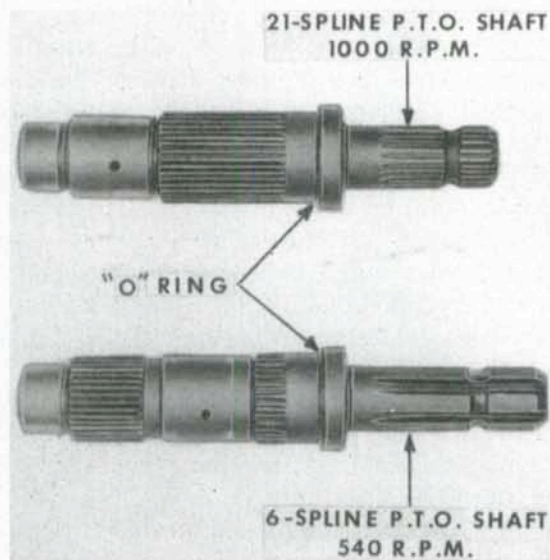

Fig. 255—View showing 1000 rpm output shaft (top) and 540 rpm output shaft (bottom). Note location for sealing "O" ring.
When installing output shaft, be sure that sealing "O" ring (17) is in proper groove as shown in Fig. 255 and that bearing surfaces of shaft are not scored.